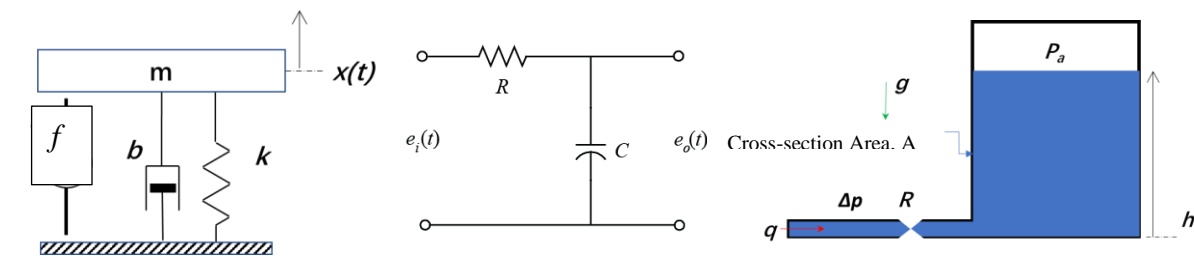

Figure 2: System dynamics that can be represented with first order ode: (a) Mass-Spring Damper System (b) RC circuit, (c) Water tank
a. Express the dynamics of the system of Figure 2(a) in the form of Equation 1 given $m=2$, $b=0.7$, $k=1$ and $f=0.5$ with zero-initial conditions.
c. Show that for the systems in Figure 2 b and c can be expressed as follows.